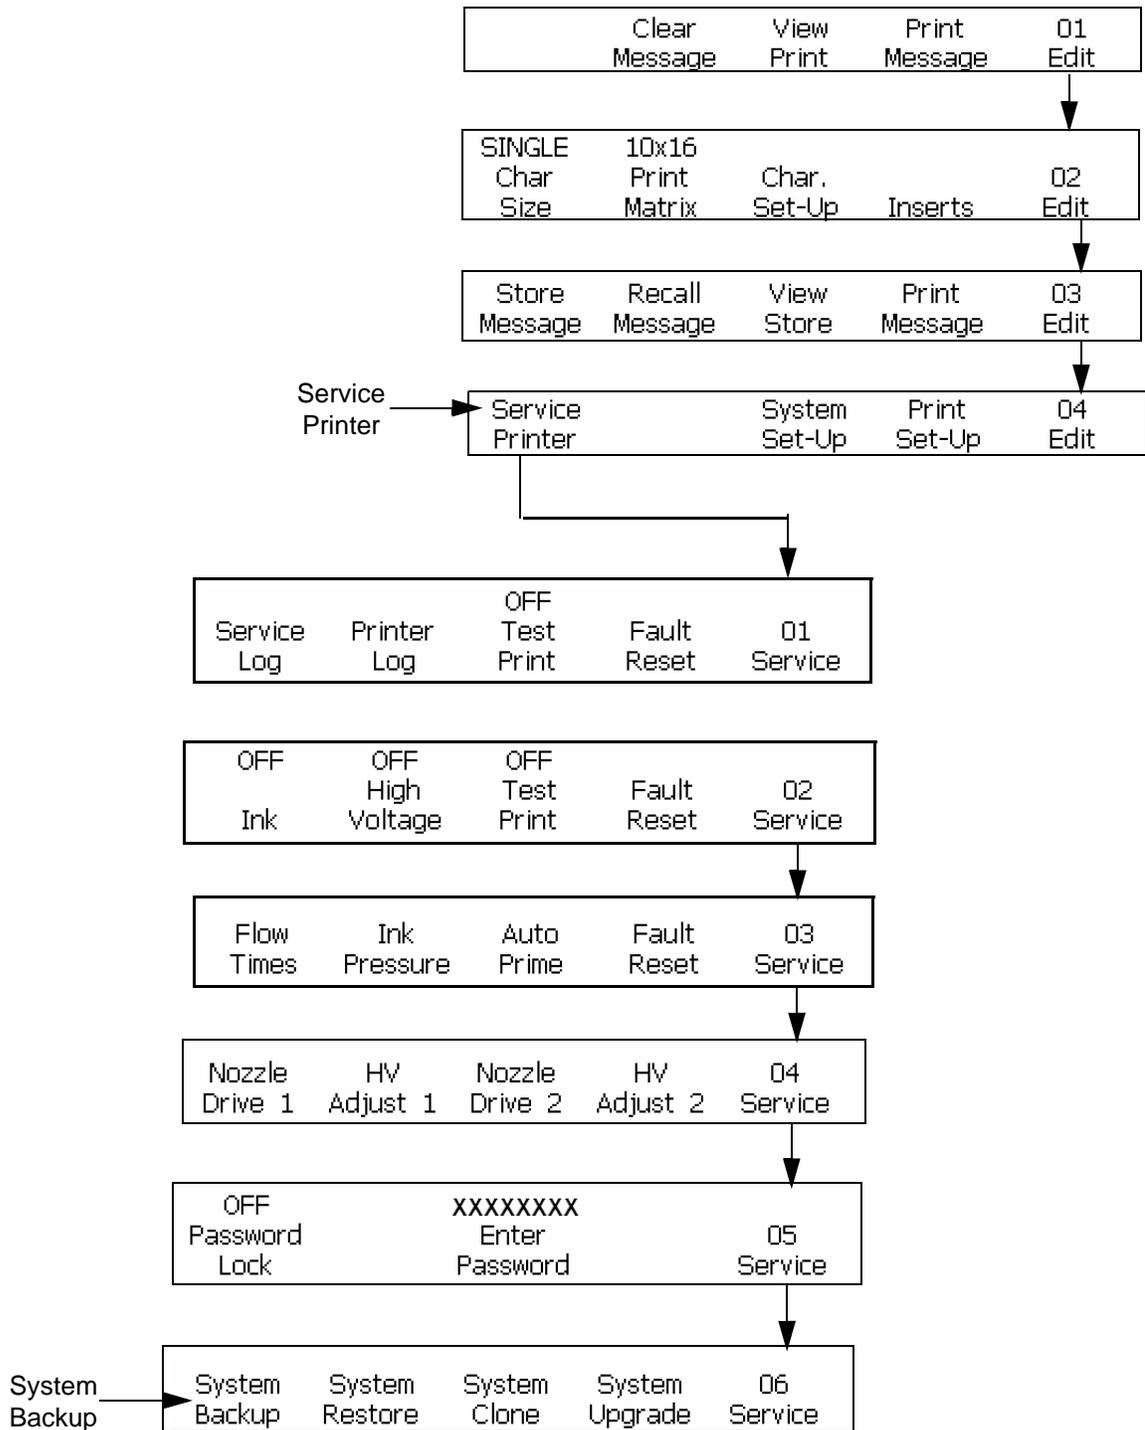

Figure 7-25: Access Frame <06Service>
- 1 Begin with the Frame <06 Service>. Refer to Figure 7-25 on page 7-39.